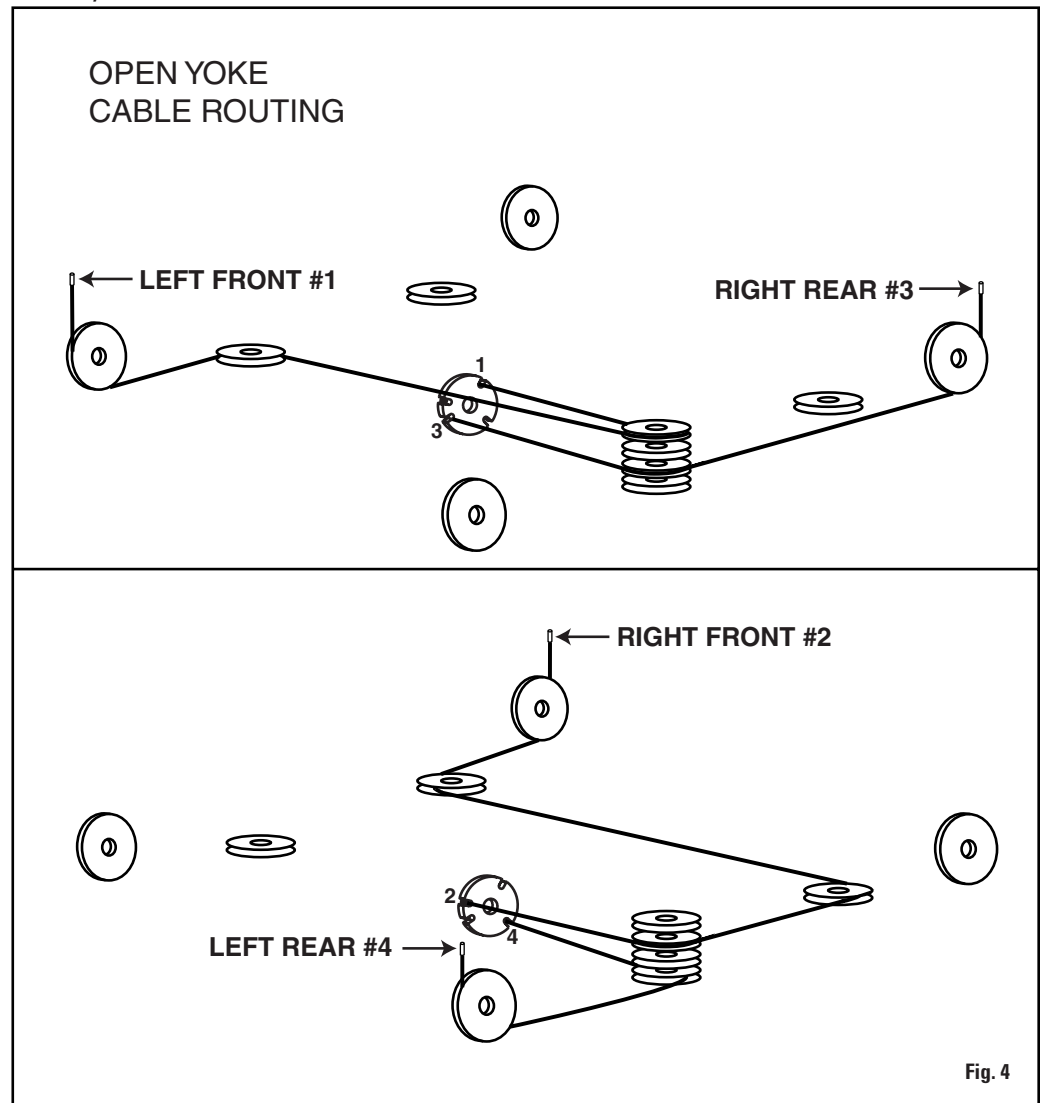
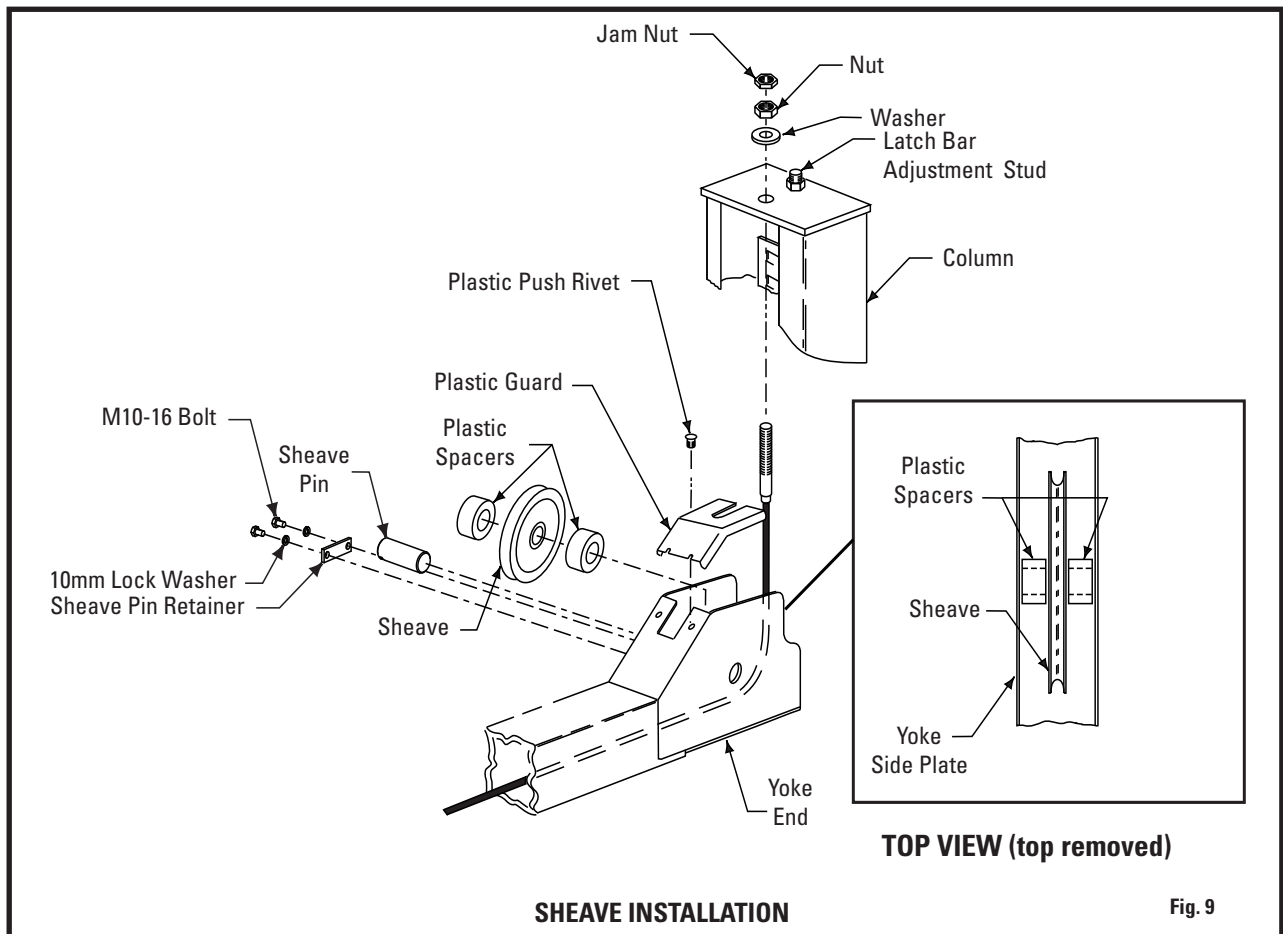

Fig. 4
Fig. 9
- C. Install rear yoke end sheaves and plastic spacers, Fig. 9. A plastic spacer is placed on each side of the sheave, see inset, Fig. 9. Retain sheave pin with (2) M10-16 bolts and sheave pin retainer.
- F. **IMPORTANT** Be sure cable is isolated in the sheave groove. Attach each cable to column top plate with washer, nut, and jam nut, Fig. 9. Install plastic sheave guard on each yoke end. Roping diagram shows a view of completed roping, Fig. 4.
10. **Front Sheave Install:** Install yoke end sheaves and plastic bearings. A plastic bearing is placed between each side of the sheave and the sheave spacers, Fig. 13, also refer to inset in Fig. 9. Retain sheave pin with (2) M10-16 bolts and sheave pin retainer. Be sure cable is located in the sheave groove.